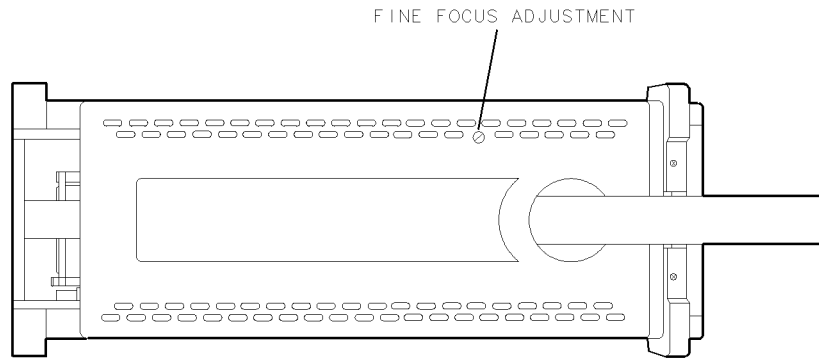

Figure 1-4. Adjusting the Fine Focus
2. Use an adjustment tool or small screwdriver to access the fine-focus adjustment. See Figure 1-4. Adjust for a focused display.